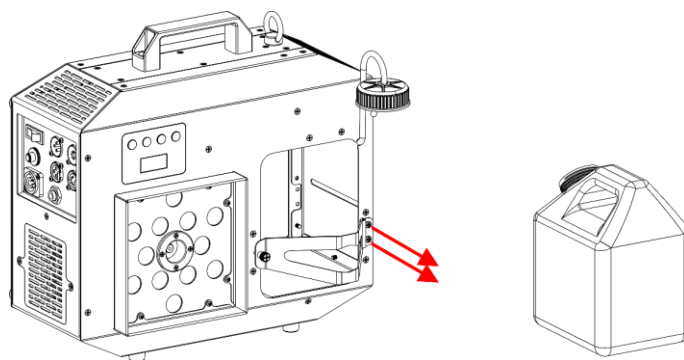

Fig. 11
06) Unscrew the 2 screws of the bracket, as shown in Fig. 11.